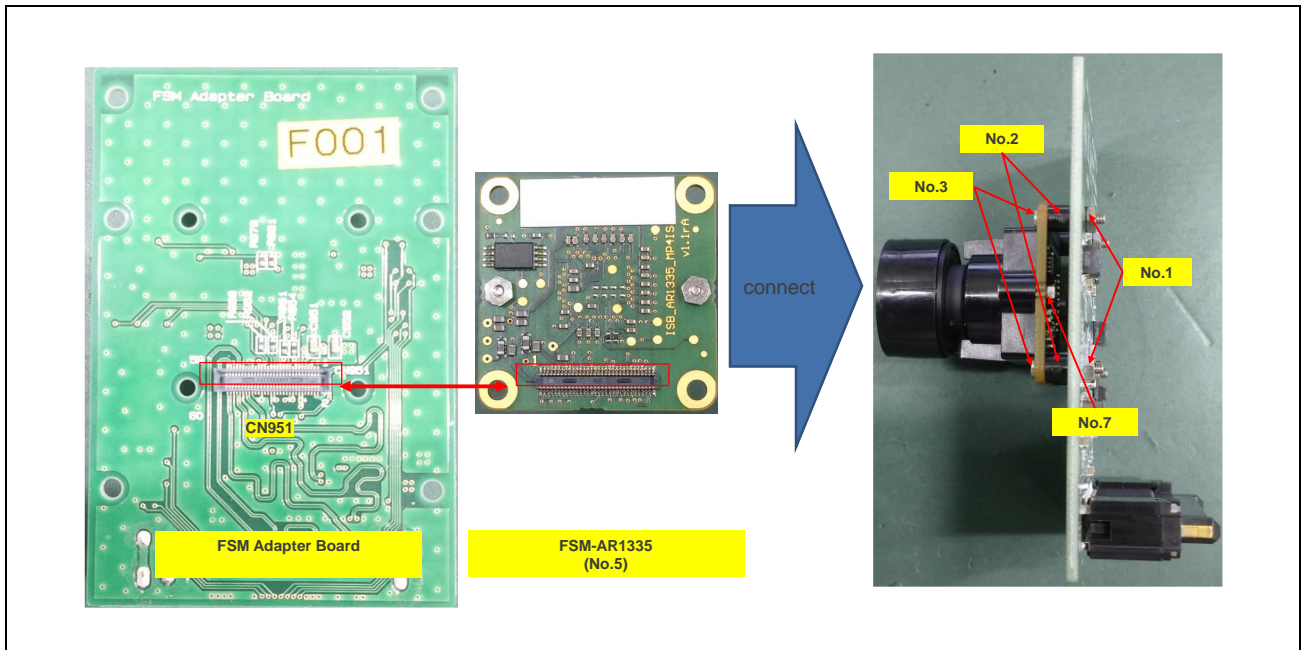
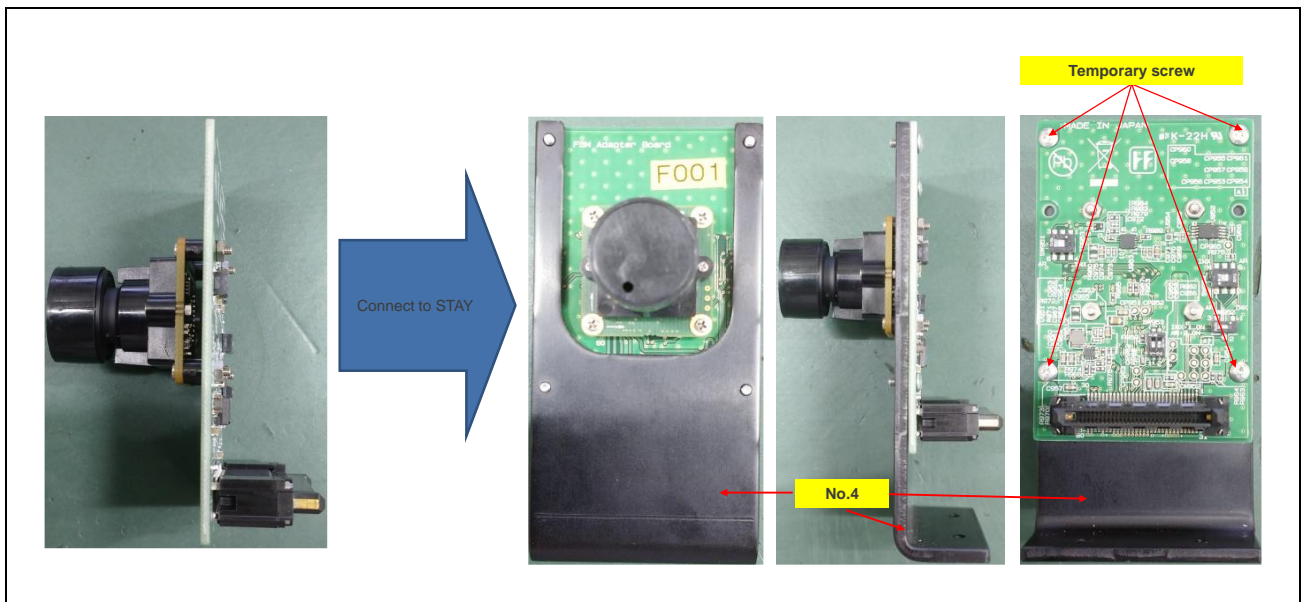

Figure 3.1-2 Connect FSM Adapter Board to FRAMOS sensor module (FSM-AR1335)
Figure 3.1-3 Connect FSM Adapter Board to Stay (FSM-AR1335)
- Connect CN951 on FSM Adapter Board to the connector on FRAMOS sensor module (See **Figure 3.1-2, Figure 3.1-3**)